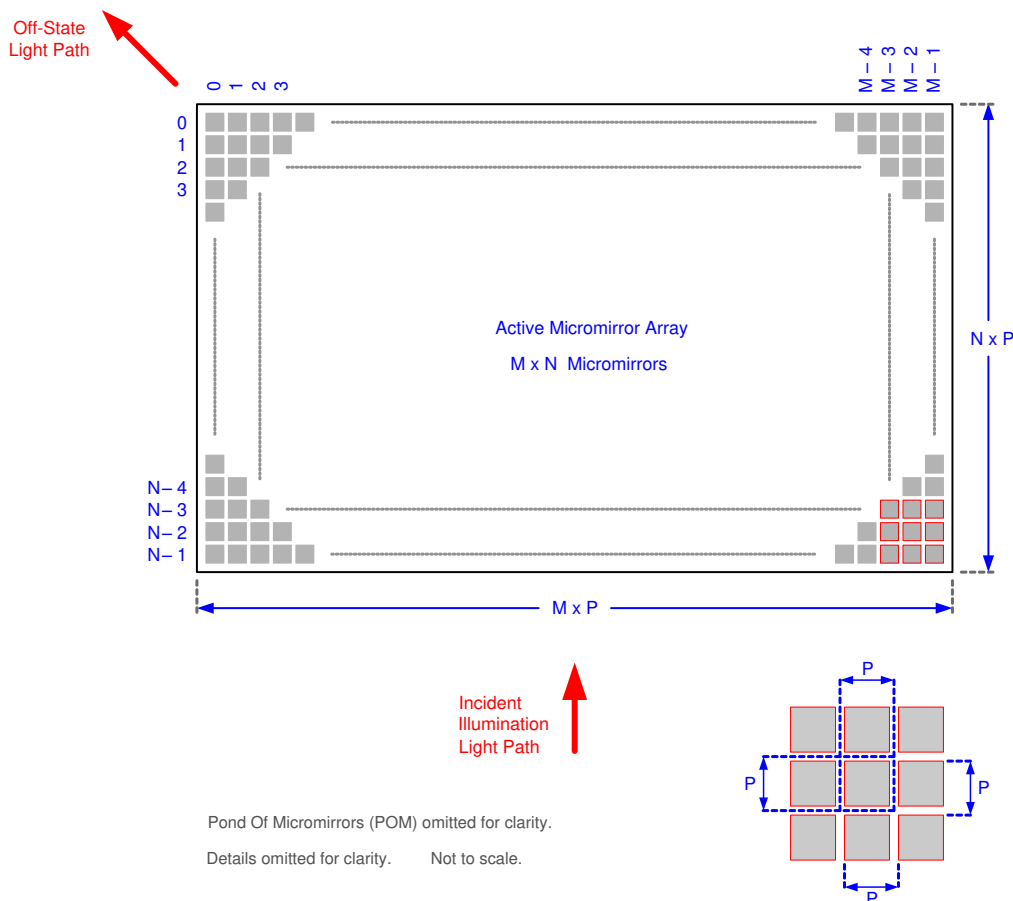

Figure 6-14. Micromirror Array Physical Characteristics
- (1) See Figure 6-14.
(2) The fast switching speed of the DMD micromirrors combined with advanced DLP image processing algorithms enables each micromirror to display four distinct pixels on the screen during every frame, resulting in a full 3840 × 2160 pixel image being displayed.
(3) The structure and qualities of the border around the active array includes a band of partially functional micromirrors referred to as the *Pond Of Micromirrors* (POM). These micromirrors are structurally and/or electrically prevented from tilting toward the bright or ON state but still require an electrical bias to tilt toward the OFF state.